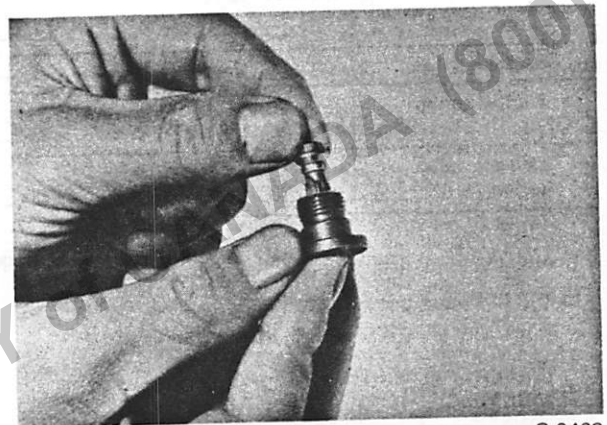

Fig. 4-18 Testing the delivery valve
- (1) Thoroughly wash the delivery valve in diesel fuel oil. Allow a light coating of oil to remain on its surface.
- (2) Close the port by fingers as shown in Fig. 4-18.